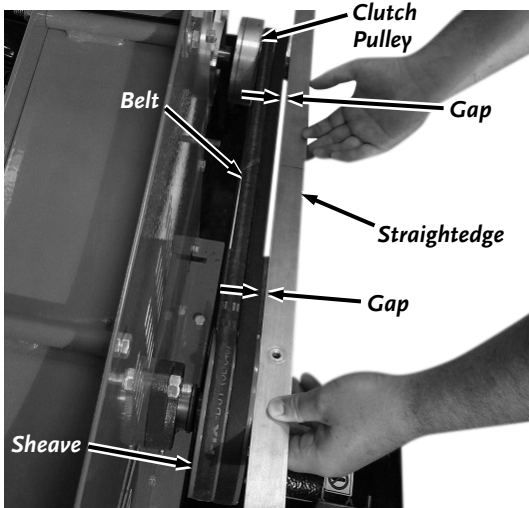

Figure 45
- Check the alignment of the Clutch with the Sheave by placing a Straightedge flat across the Sheave outer surface and position the other end of the above (not touching) the face of the Clutch Pulley (**Figure 45**).